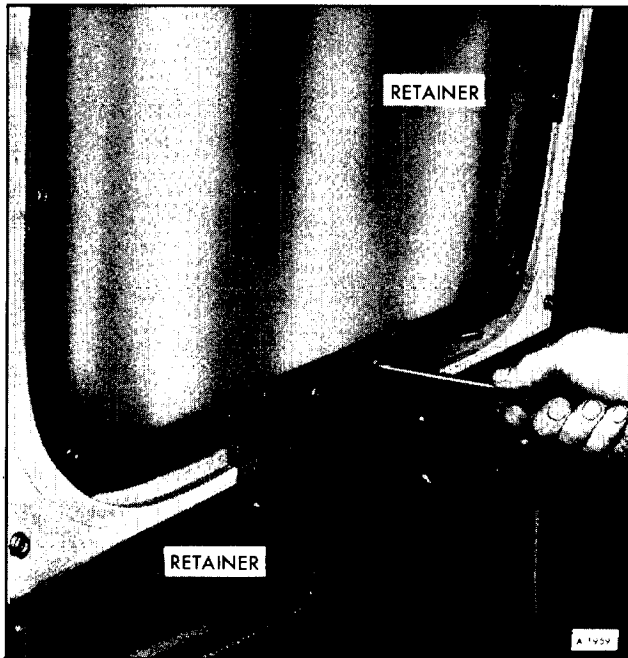

Figure 5—Removing Sash Retainers
2. All sash assemblies are mounted as typically shown in Figure 5. Remove retainers.